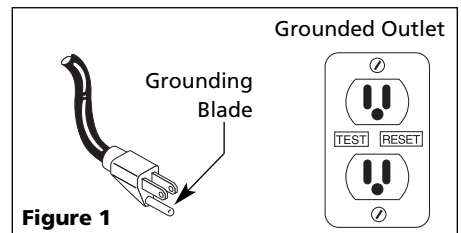

Figure 1
11. This equipment is only for use on 120 volt (single-phase) and is equipped with an approved 3-conductor cord and 3-prong, grounding-type plug as shown in Figure 1.
To reduce the risk of electric shock, the motor must be securely and adequately grounded. This can be accomplished by inserting plug directly into a properly installed and grounded 3-prong, grounding-type receptacle (as shown in Figure 1).
13. It is strongly recommended that this unit is plugged into a Ground Fault Circuit Interrupter (GFCI). Consult a local electrician for installation and availability (See Figure 1).